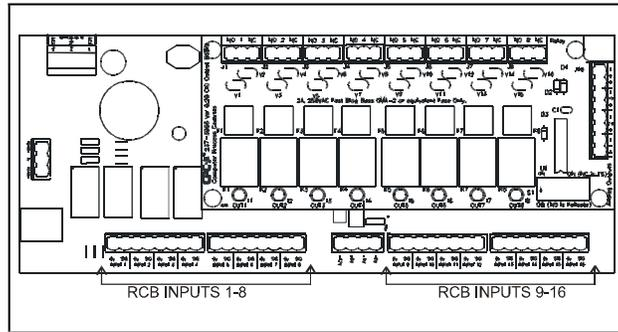

Figure 4-1 - MultiFlex RCB Input Locations
**Figure 4-1** shows where the inputs are located on the MultiFlex board. **Table 4-1** describes the input types that may be programmed in the RCB.